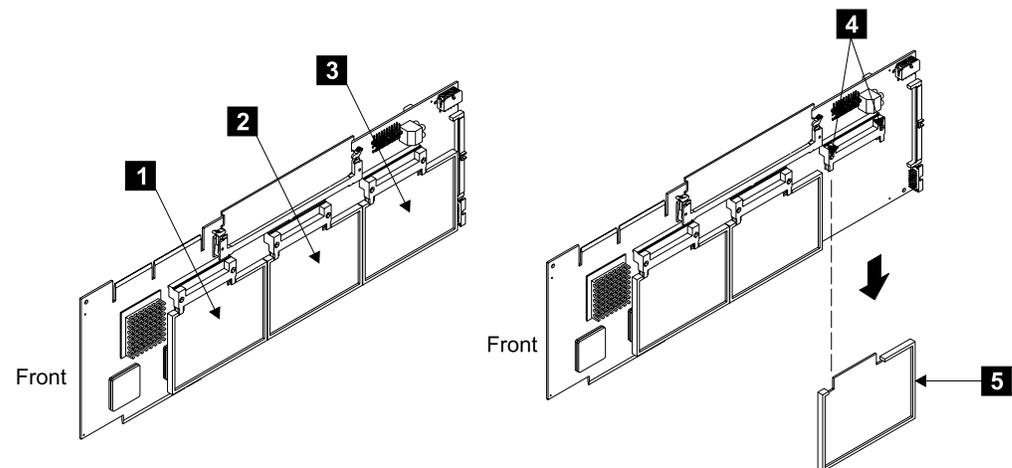

Figure 206. Cluster Bay NVS Remove and Replace (S008299m)
2. Locate the NVS cache module you are replacing or exchanging the battery on, see Figure 206: